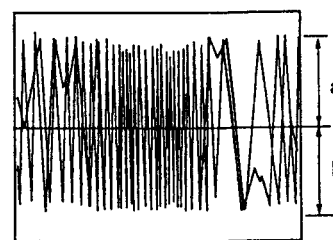

Fig.3 Maximum TRK error.
6. Turn the screwdriver counterclockwise until the TRK waveform's amplitude reaches the first maximum from the null point. (See Fig. 3.)
1. Adjust VR602 so that the TRK error waveform amplitude's positive and negative level become equal. (See Fig.3)